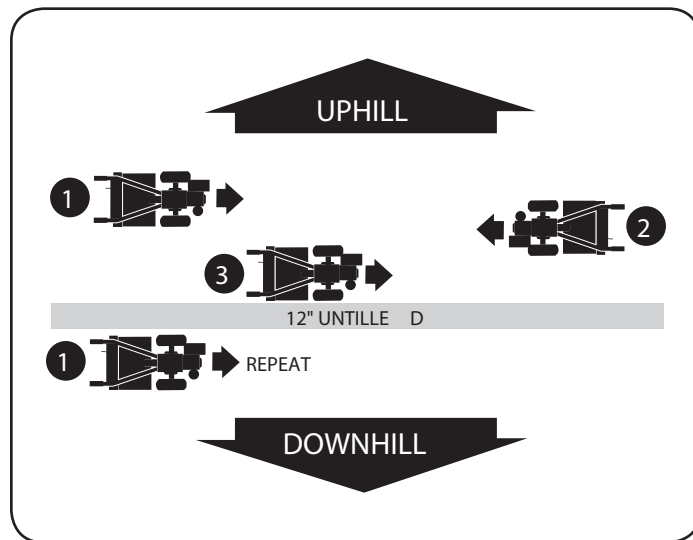

Figure 20
- To create a terrace, start at the top of the slope and work down. Go back and forth across the first row. See Figure 20.